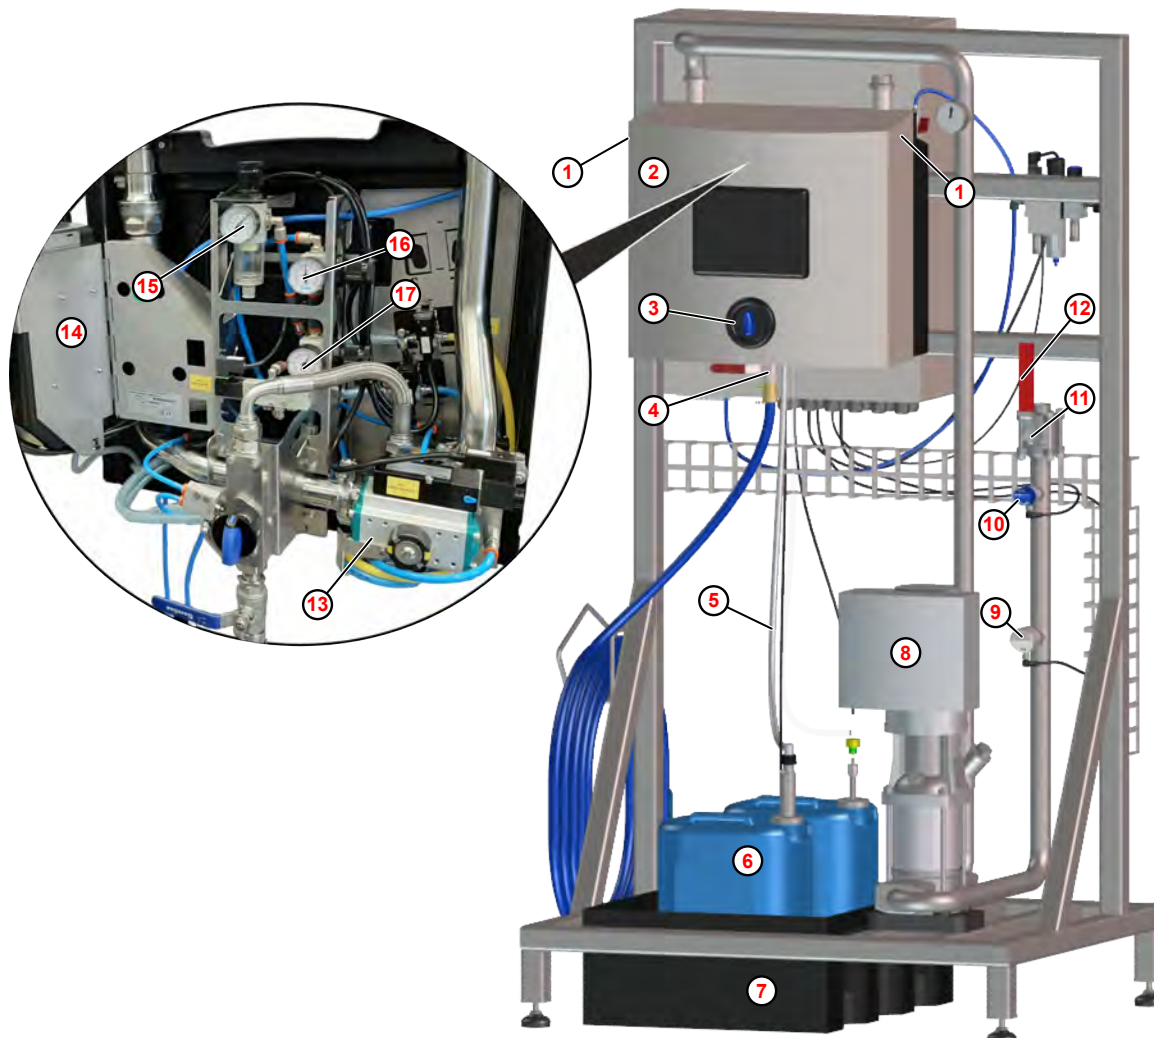

Fig. 106: Foamatic satellite with connections and compressed air supply
2. ➤ Remove the Torx screws, see Fig. 106 ① on the cover ② of the Foamatic satellite and remove the cover.
4. ➤ If there are leaks, close the shut-off valve ④ of the water supply (position **[OFF]** / horizontal).